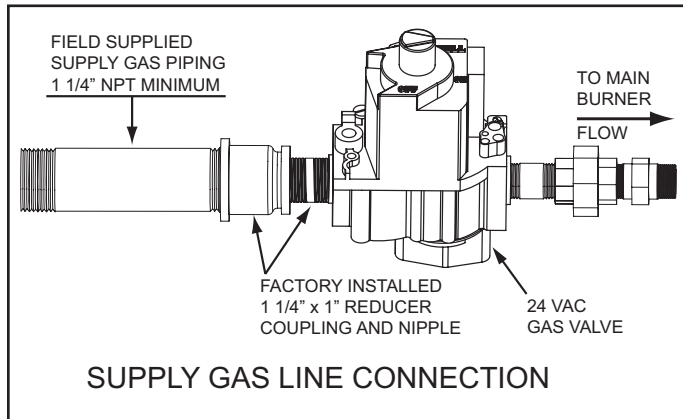

Figure 53
1. v The water heaters covered by this manual are shipped from the factory with a 1 1/4" supply gas connection, see Table 1 on page 10. Short pipe nipples and reducer couplings are factory installed to increase the size of the water heater's 24 VAC Gas Valve inlet, see Figure 53.